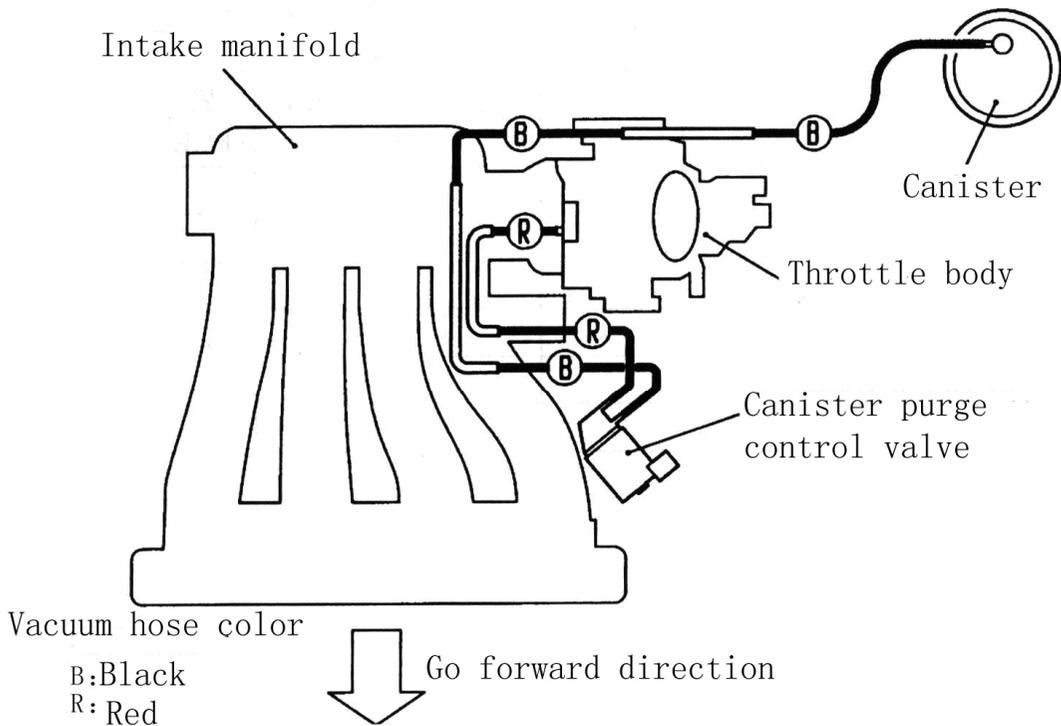

Fig. 10-4
(2) VACUUM HOSE PIPING DIAGRAM (see Fig. 10-4)